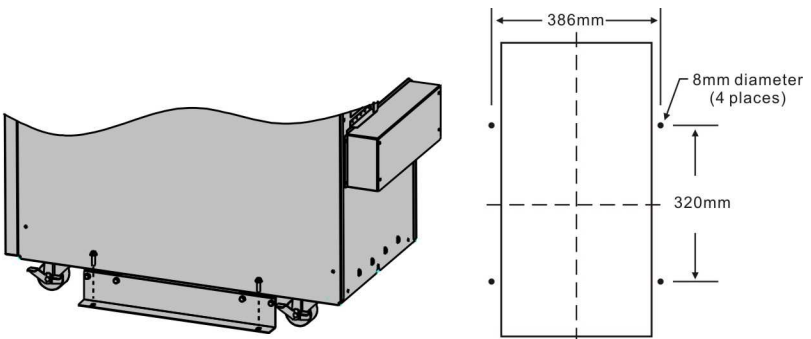

Fig. 4-5 Additional stability
- 4) Once the installation is completed, the side mounting brackets (used in shipping) shall be fixed back to ensure the stability of the UPS enclosure. If impossible, additional stability can be added by anchoring the mounting brackets to the floor with M8 bolts. See Fig. 4-5. (only for tower 3/1 10k-20k)